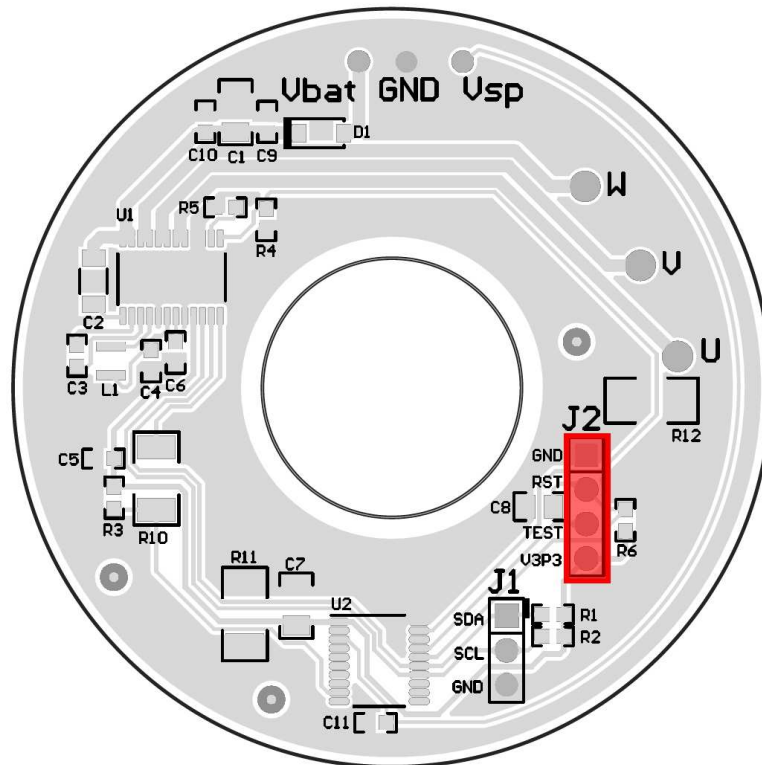

图 5. Hardware Setup for JTAG Interface and Communication With MSP430 MCU
It is also recommended to use a JTAG emulator like the one found through the MSP430 LaunchPad™ Value Line Development Kit \(MSP-EXP430G2\) to interact with the MSP430G2553. See 图 5 for more information when connecting to the system using the JTAG interface. For pins 1 through 4 of J2, see the GND, RESET, TEST, and V3P3 required for the JTAG interface. For more information about I²C and the JTAG interface, see 节 3.1.2.
2. Connect the LaunchPad programmer to the TIDA-01496 board, as shown in 图 5.